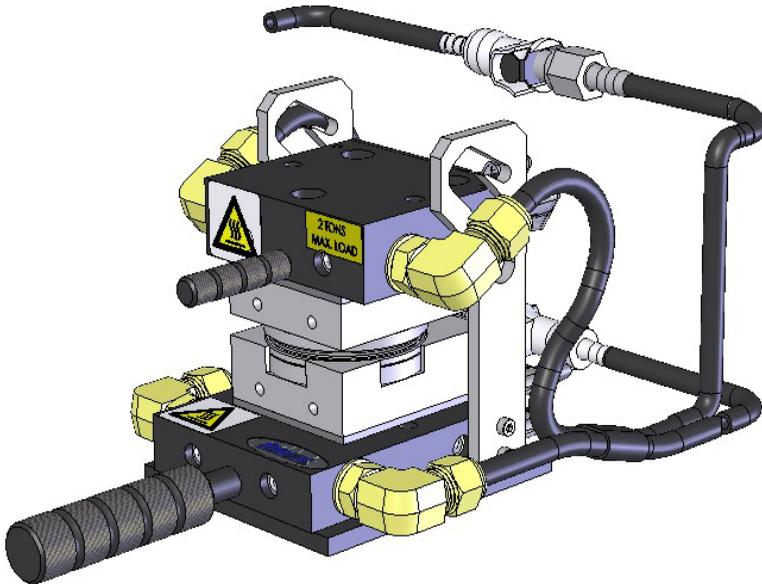
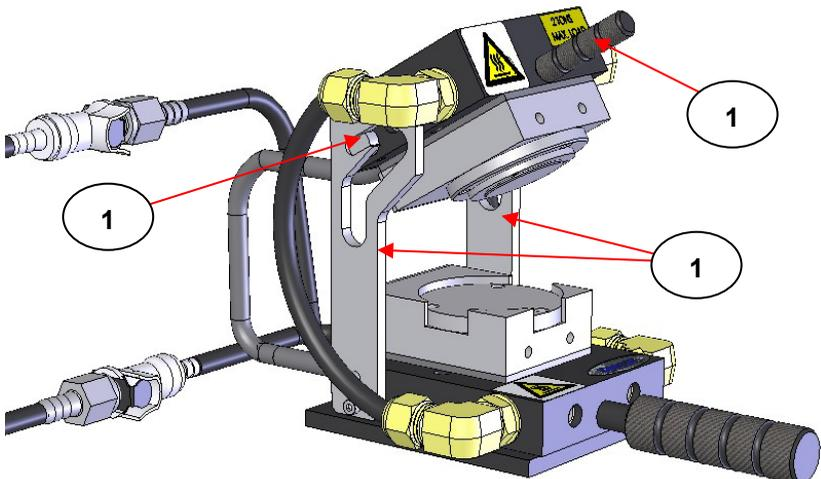

Fig 6. High Temperature Film Maker Accessory Ready for Installation into the Press (Sampling Position)
Fig 13. Loading Position of the High Temperature Film Maker Accessory (Shown Outside of Press for Clarity)
After removal of the protective films from the polished pressing surfaces (13) and (14), return the Top Half Assembly of the Accessory back to the **Sampling Position**, such that it is resting on top of the Lower Half Assembly (lower cooling block (3) and heated pressing surface assembly (5)). (See Fig 6.)
To accept a sample cup with sample, the Top Half Assembly of the High Temperature Film Maker Accessory should be re-positioned from the **Sampling Position** (See Fig 6.) to the Loading Position (See Fig 13.) The Top Half Assembly is moved by use of the lifting handle (16) into the top resting slots (17) of both side support brackets (15) as shown in Fig 13, for the **Loading Position**.